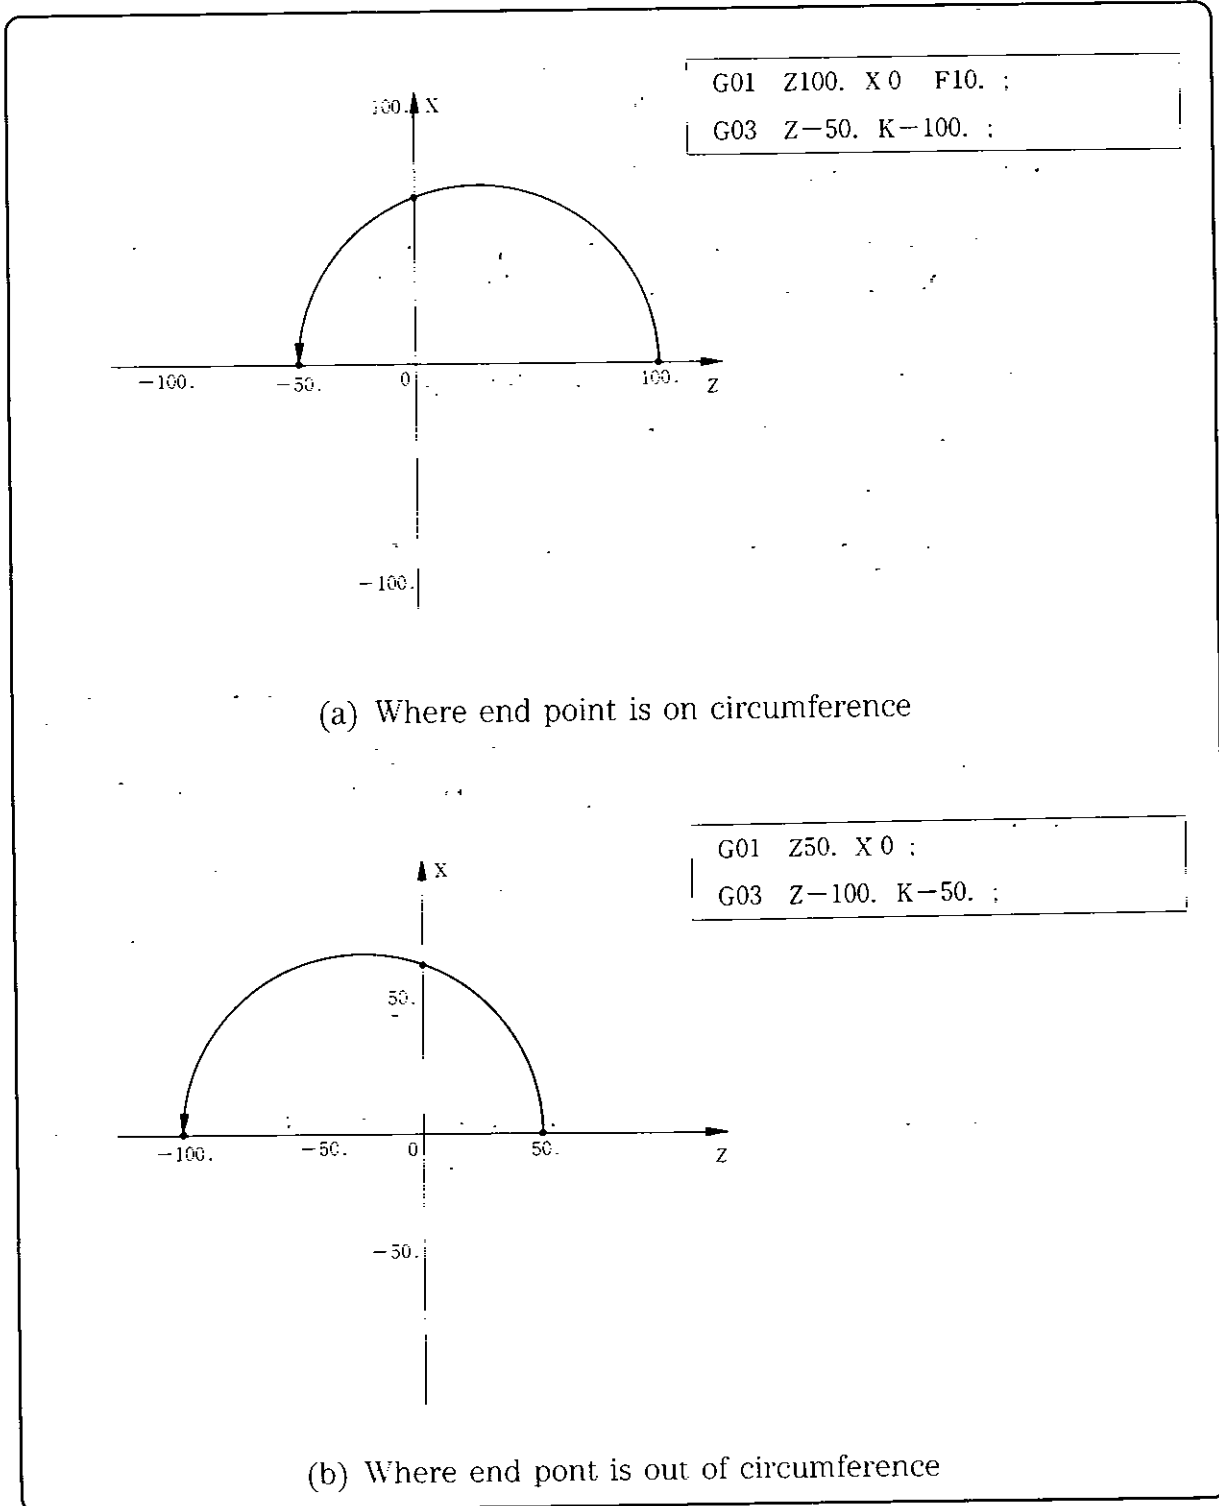

Fig. 2.4.5 When the End Point of A Circular Arc is not on the Circumference
(3) When the end point of a circular arc is not on the circumference, the tool is moved as shown in Fig. 2.4.5.